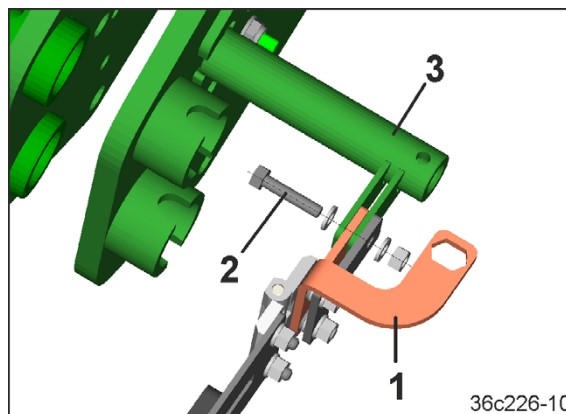

Fig. 97
5. Bolt the section (Fig. 97/1) with a hex. bolt (Fig. 97/2) onto the holder (Fig. 97/3).